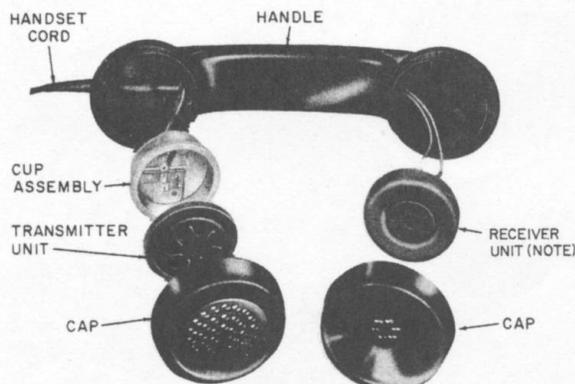

Fig. 1—G Series Handset
- Revise Fig. 1, 2, and 12, and replace Fig. 4 and 6
2.01 The G-series handset (Fig. 1) consists of a molded handle, receiver unit, transmitter unit, transmitter cup, receiver and transmitter caps, and a handset cord.